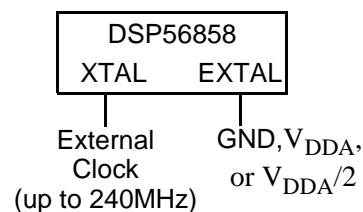

Figure 8. Connecting a High Speed External Clock Signal using XTAL
The recommended method of connecting an external clock is given in Figure 8. The external clock source is connected to XTAL and the EXTAL pin is held at ground, V_{DDA} , or $V_{DDA}/2$. The TOD_SEL bit in CGM must be set to 0.
1. See Figure 8 for details on using the recommended connection of an external clock driver.